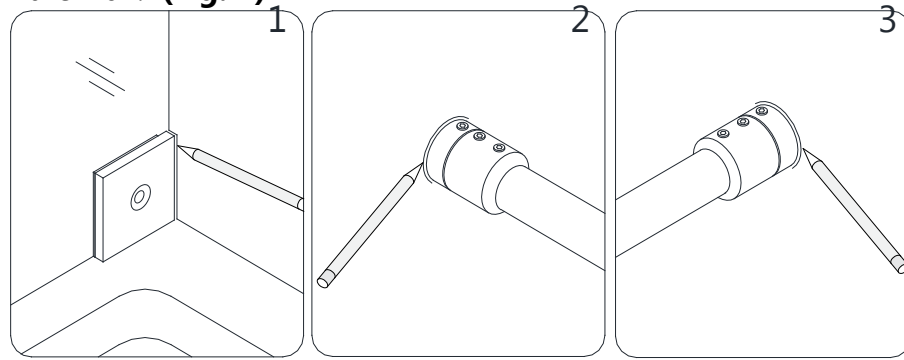

Fig. 7
6. Once the **Upper Guide Rail (#03)** is leveled, mark the position of the **Wall Bracket (#19)** and **Guide Rail Brackets (#08)** on the wall. (Fig. 7)